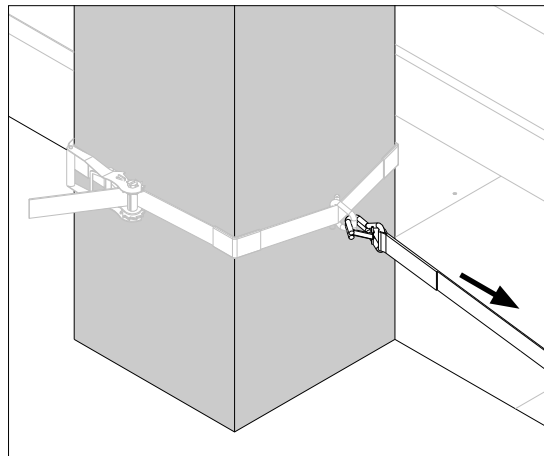

Fig. A2.05
4. Attach next Tension Belt PTB to Eyelet PE and tension on next support. (Fig. A2.05)